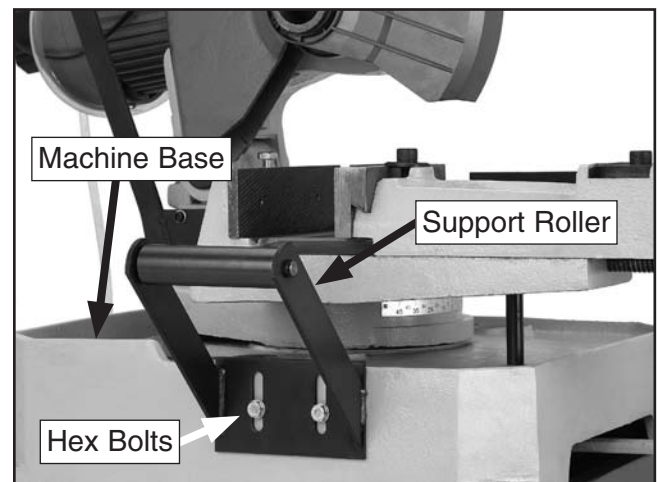

Figure 15. Support roller.
7. Connect the support roller to the machine base by removing the two hex bolts, aligning the bracket over the holes, as shown in **Figure 15**, then re-installing the hex bolts. Before fully tightening the hex bolts, use a straightedge to make sure the roller is even with the vise table.